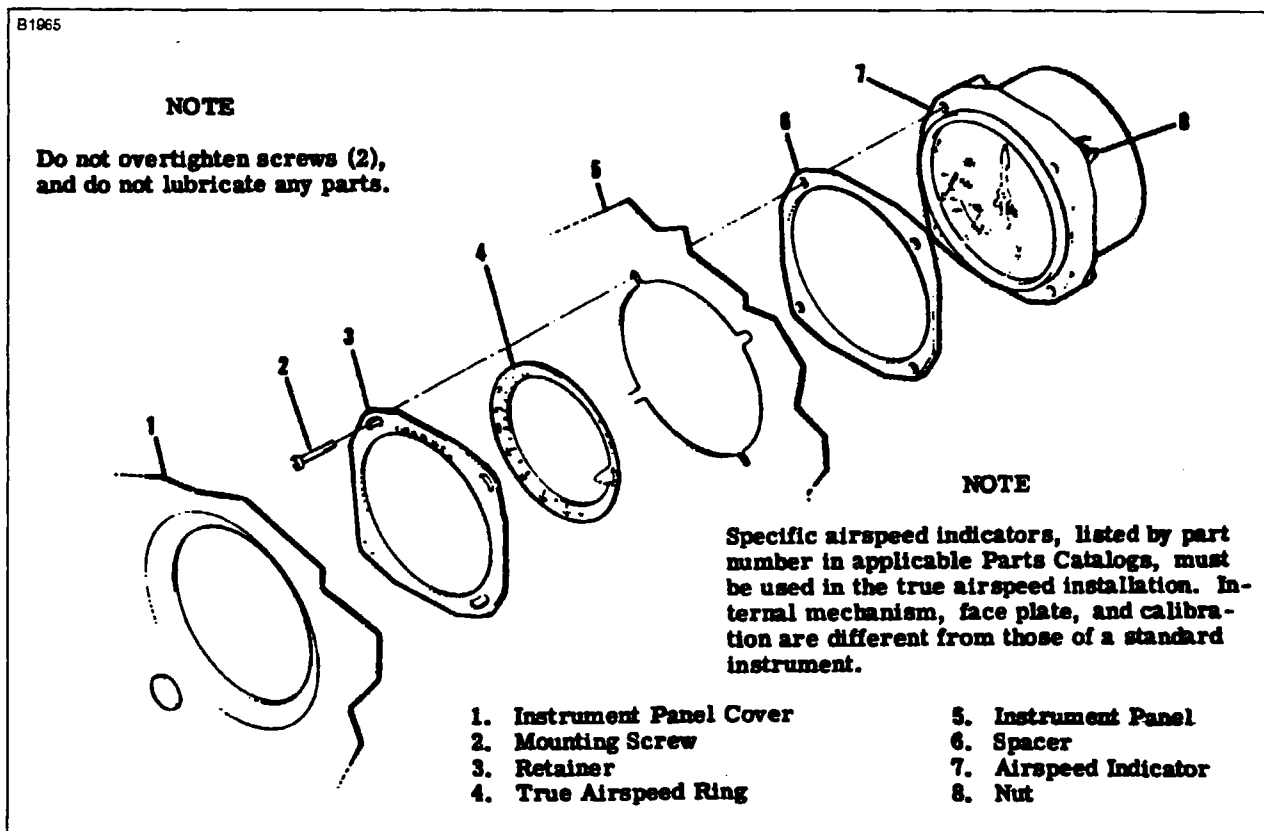

Figure 16-2B. True Airspeed Indicator
A true airspeed indicator may be installed as optional equipment on all 100-Series aircraft. The indicator is equipped with a true airspeed conversion ring. The ring may be rotated until pressure altitude is aligned with outside air temperature, then indicated airspeed on the gage is read as true airspeed on the adjustable ring. The instrument may be removed using figure 16-2B as a guide. Upon installation, and before tightening mounting screws (2), the instrument must be calibrated. This is accomplished as follows: rotate ring (4) until 120 mph on the adjustable ring aligns with 120 mph on the indicator. Holding this setting, move retainer (3) until 60° F. aligns with zero pressure altitude, then tighten mounting screws (2) and replace decorative cover.